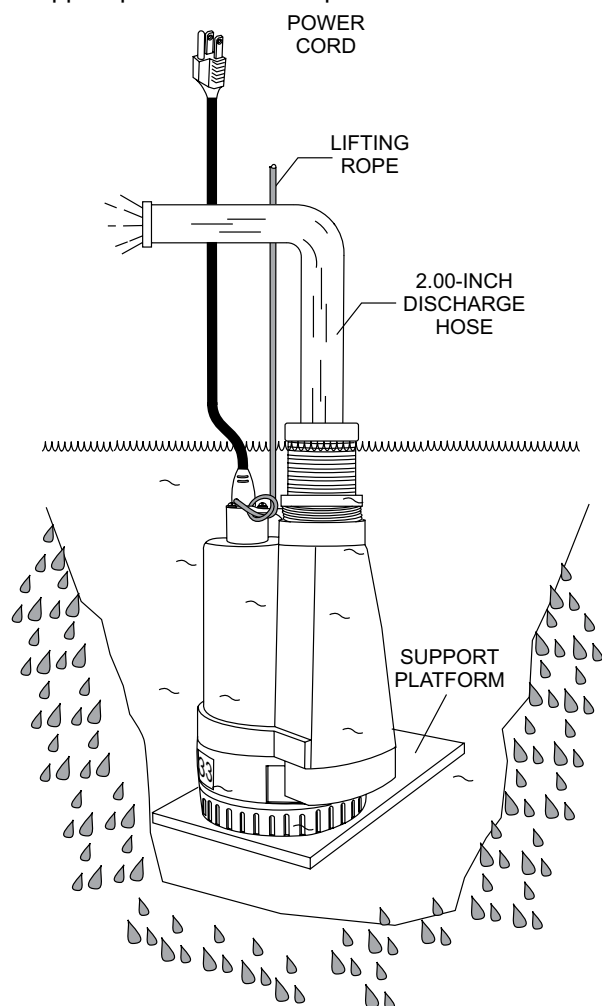

Figure 2. Submersible Pump Upright Position (Correct)
1. Attach a suitable lifting cable (rope) to the carrying handle (Figure 2) on the pump and lower the pump into place. For applications where there is an excessive amount of mud, grit or silt, the use of a support platform is desirable. When pumping water from swimming pool type applications where there is little or no debris, the support platform is not required.